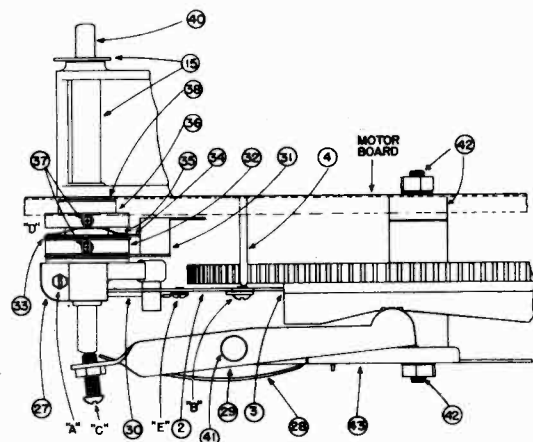

Fig. 6
"A" Adjustment of 10-inch Landing Position. (See Fig. 6)
**"C" Vertical Lift Adjustment. (See Fig. 6)**
**"D" Friction Trip Adjustment. (See Fig. 6)**
**"E" Feed-in Spring Adjustment. (See Fig. 6)**